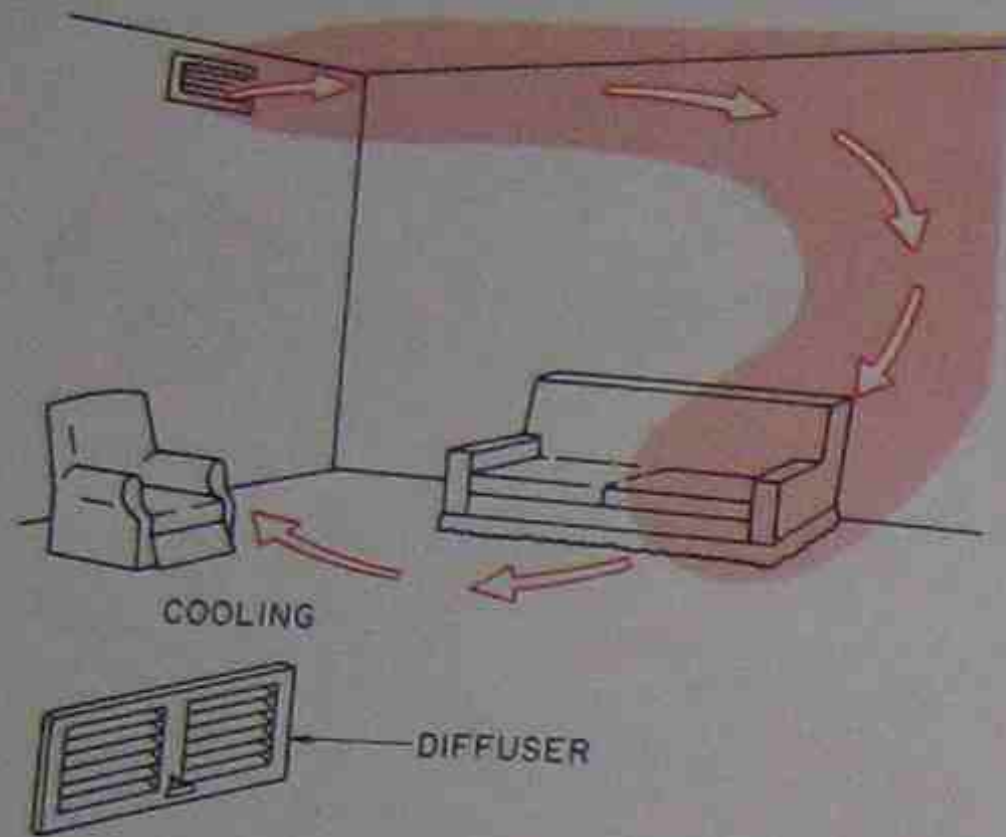

Figure 39-49. Cool air distribution.
3. Cool air for summer operation distributes better from the ceiling because it tends to fall, Figure 39-49.